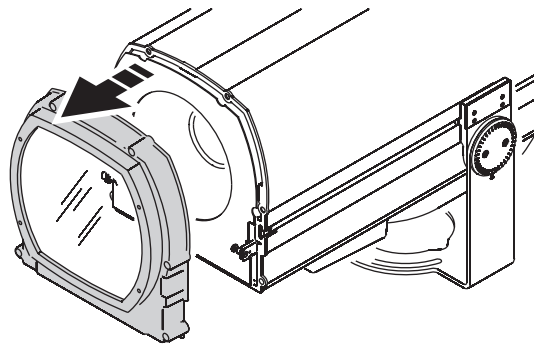

Figure 18: Removing the front cover and seal
2. See Figure 18. Loosen the six Allen head screws holding the front cover and remove the cover and its rubber seal. Avoid damaging the seal during removal.